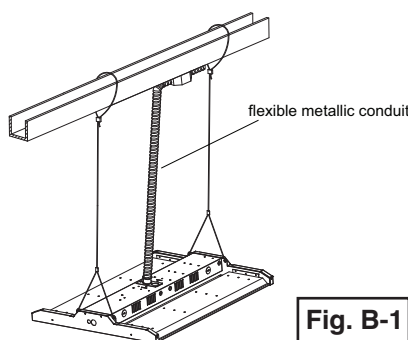
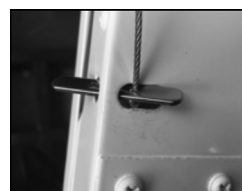

Fig. B-1
Fig. B-3
1. Run the cable kit wires through the four holes provided at each end of the fixture as shown in **Figure B-1**. Ensure that the fastener passes through the hole completely **Figure B-3**.
4. Use the flexible metallic conduit to run the line, neutral and ground wires for powering the fixture. (**Figure B-1**)